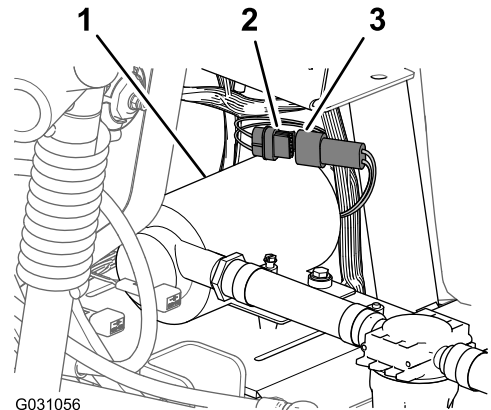

Figure 184
1. Connect the 6-pin connector of the rinse-pump harness from the 6-socket connector of the rear, main harness (Figure 184).